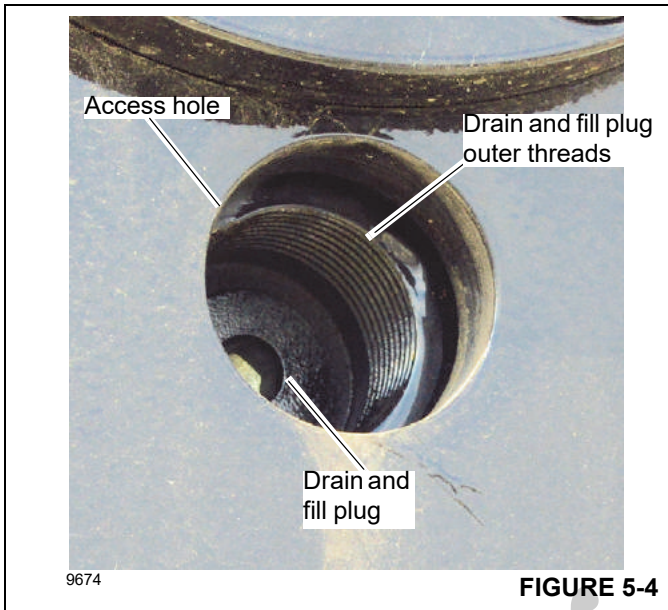

FIGURE 5-4
2. Rotate the hoist drum so the drain and fill plug (Figure 5-4) is aligned with the oil drain access hole at the 6 o'clock position (3, Figure 5-3).
3. Install a short 1 inch (25 mm) pipe in the outer threads around the drain and fill plug (Figure 5-4).
2. Using a 5/16 inch (8 mm) Allen wrench, remove the drain and fill plug (Figure 5-4).
5. Using a 5/16 inch (8 mm) Allen wrench, install and tighten the drain and fill plug (4, Figure 5-4). Torque the drain and fill plug to 67.8 Nm (50 ft-lb).